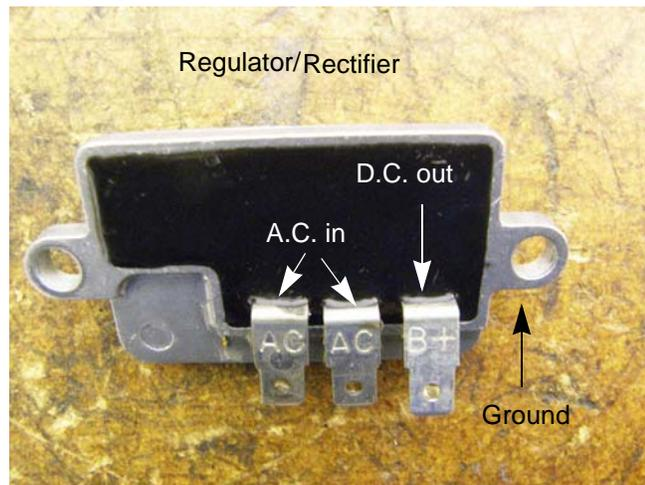

Figure 7.30
3. The regulator/rectifier takes alternating current and converts (rectifies) it to D.C. (Direct Current). The regulator rectifier also regulates the voltage to a nominal 12 volts. See Figure 7.30.